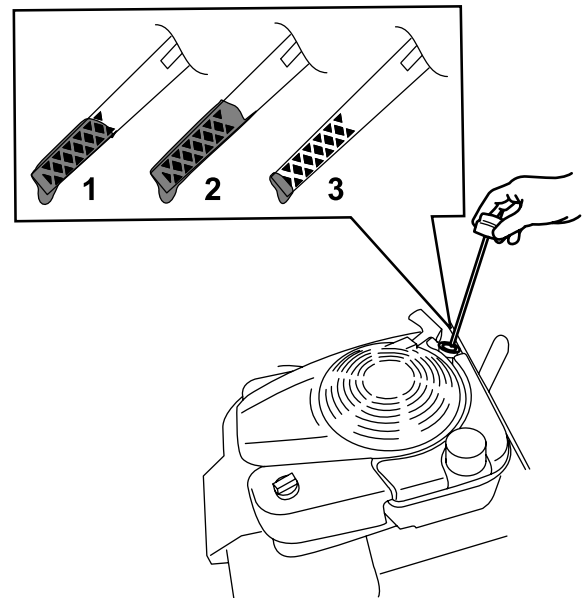

Figure 31
3. Remove the dipstick by rotating the cap counterclockwise and pulling it out (Figure 31).
10. Read the oil level on the dipstick (Figure 31).